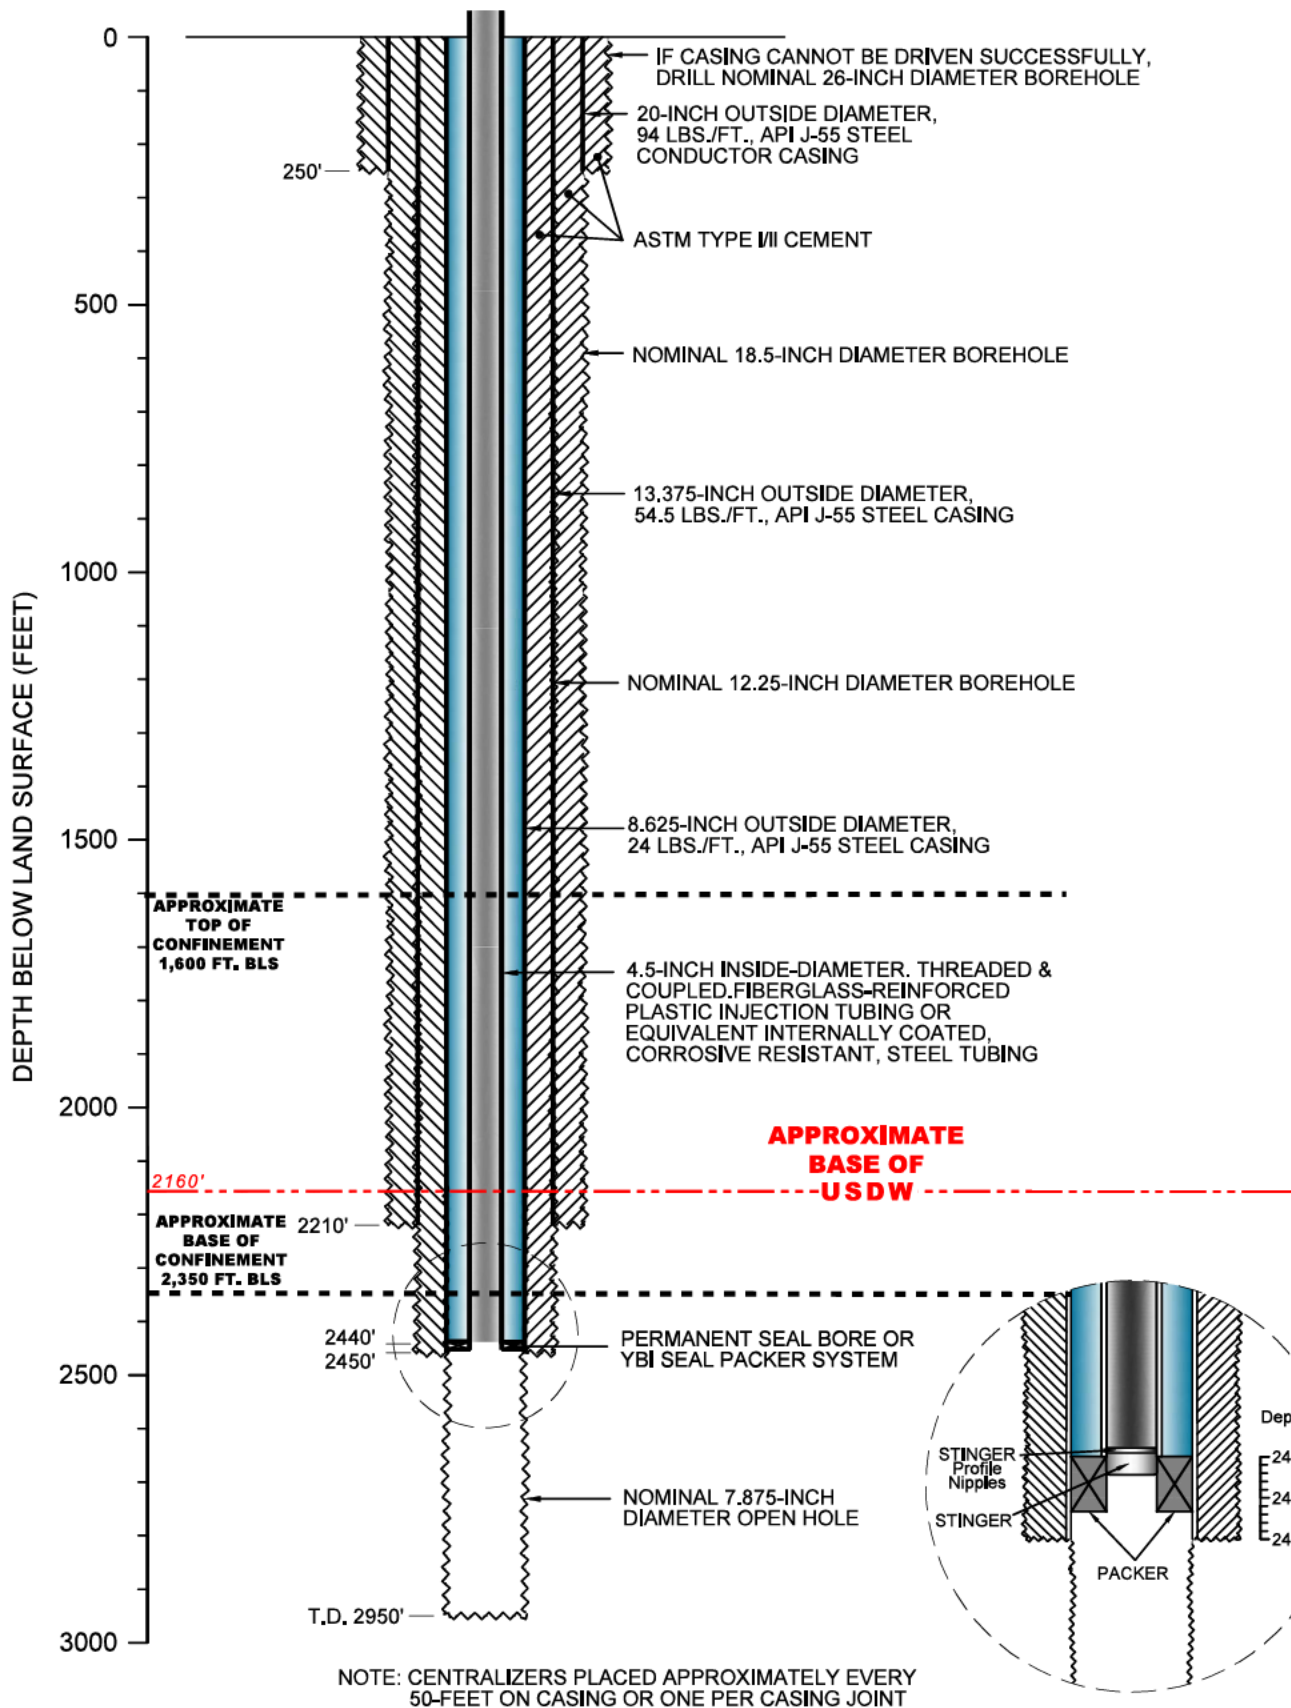

FIGURE 13. SALTWATER DISPOSAL WELL BELOW GRADE SCHEMATIC (UPDATED JULY 2021).
**3. Section C, Well Construction/Conversion Information, Figure 13**
**Attachment No. 2** presents an updated **Figure 13** indicating the underground source of drinking water (USDW) is approximate and approximate depths of confining units noted. Please refer to permit application **Section B Geological and Geophysical Information** for a detailed description of geology for the region.
2. Updated Figure 13
# Updated Figure 13